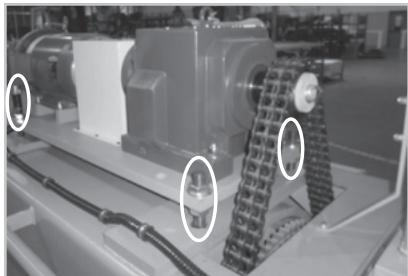

Figure 68
- Step 1. Lower the motor mounting plate to allow some slack in the chain (Figure 68).
Only 3 of the total 4 nuts are shown in Figure 68.